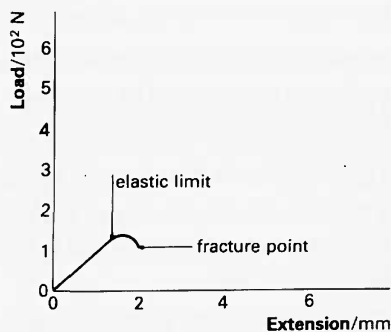

Figure A94
- 17(R)** Figure A94 shows a load–extension graph for a length of steel wire.